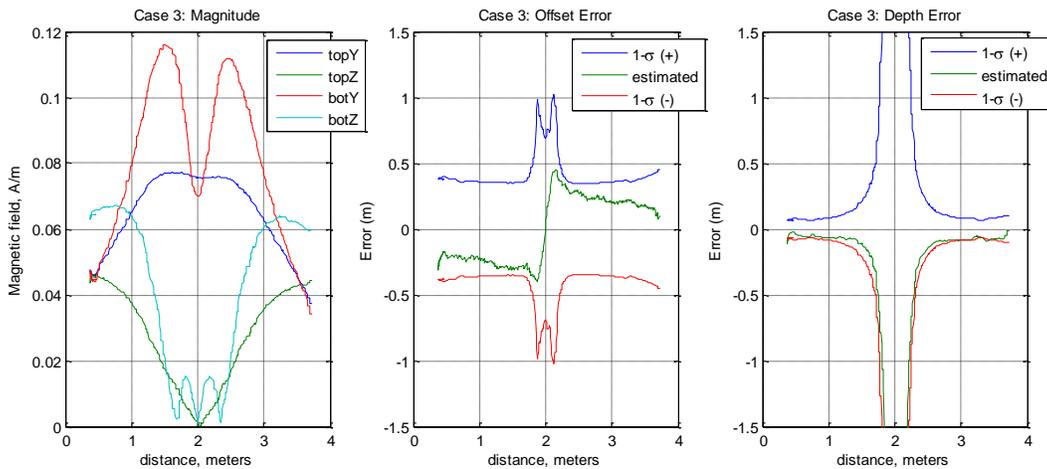

Figure 3. Bleedover cable is directly over the target (Case 3) centered at 2 meters.
A cable that is common-bonded to the target is present directly on top of the target, at a shallower depth. It returns 1/3 of the outgoing current back to the transmitter (as do the other cases). As demonstrated by the Figure 3 plots, this case results in high distortion near the true utility centerline.
In fact, it is no longer possible to use the peak signals (Y) as a reasonable prediction of the utility centerline. In this case, the peak value (red curve in the left-most plot in Figure 3) is 0.5 meters away from the truth (2.00 meters). Errors will result if this peak position is used as a reference for the depth measurement (as is required when using conventional cable locators). Using the Spar, the depth can be fairly accurately measured from an offset position. In the plot at the right side of Figure 3, a depth error of about 5 cm will occur if the measurement is taken from an offset position of 1 meter.